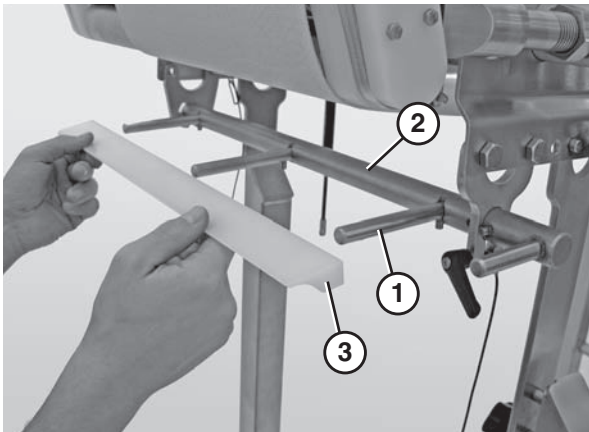

Figure 26
4. Attach the scraper bar holders (Figure 26, item 1) to the scraper shaft (Figure 26, item 2).
5. Attach the UWHM scraper (Figure 26, item 3) to the scraper bar holders (Figure 26, item 1).